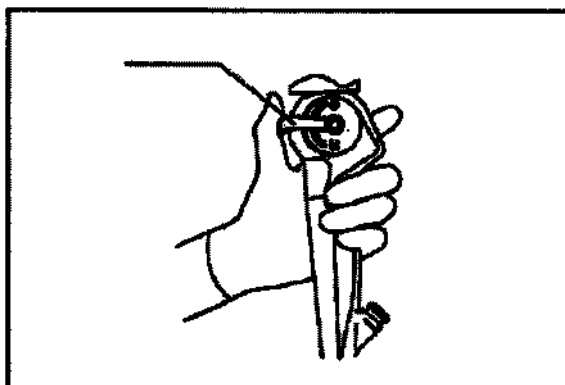

Fig 3.4
2. As shown below in Fig 3.4, turn the UP/DOWN angulation control knob slowly to its neutral position, confirm that the bending section returns smoothly to an approximately straight condition.
2. Hold the mirror with your left hand and put the thumb on the Angle lever, as shown in the Fig3.4. At this point, the image is seen in the same direction as the operator. If there is any abnormality, please stop using it immediately and contact the manufacturer.